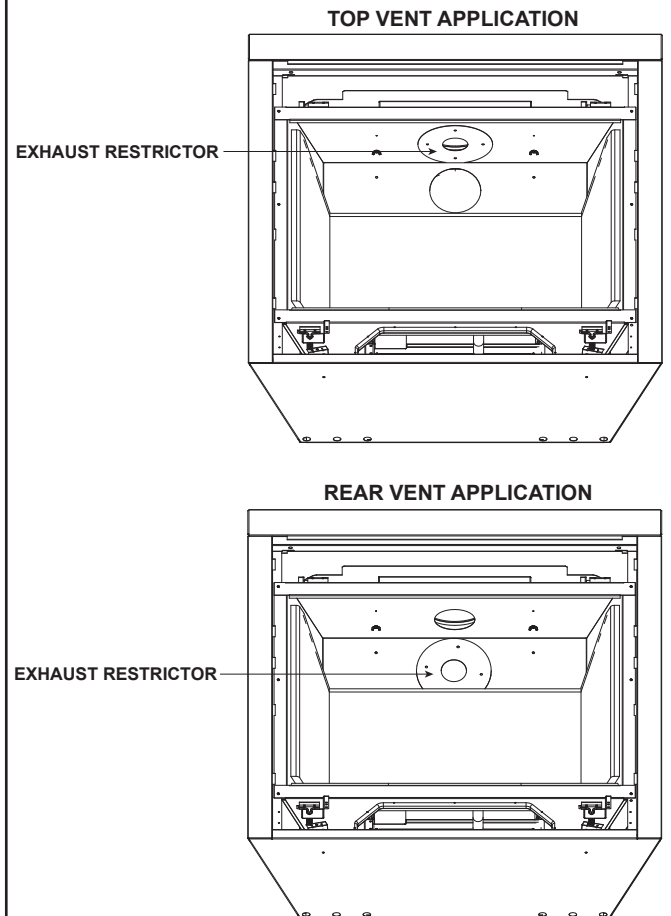

Figure 4.15 Exhaust Restrictor Installation
1. Install the exhaust restrictor over the center of the exhaust outlet in the firebox. See Figure 4.15.